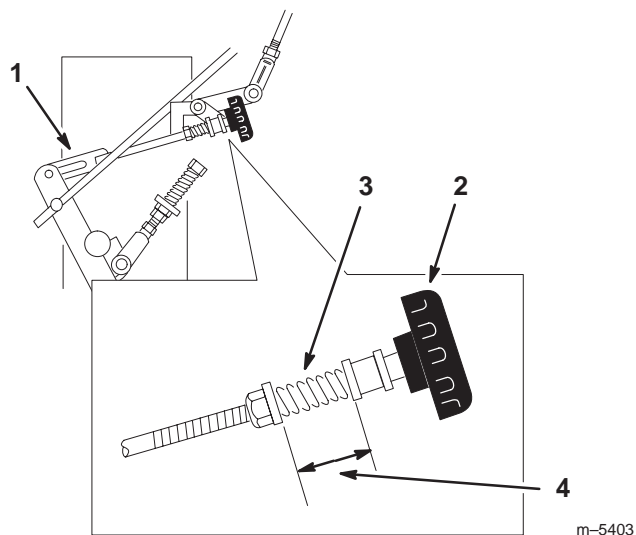

Figure 41
4. Adjust the right side linkage by turning the quick track knob counterclockwise until the tire begins to rotate forward (Fig. 41).
5. Turn the knob clockwise 1/4 of a turn at a time. Then move the speed control forward and back to neutral. Repeat this until right wheel stops rotating forward (Fig. 41).
6. The spring that keeps tension on the knob should normally not need adjustment. However if adjustment is needed, adjust the length of spring to 1 in. (26 mm) between the washers (Fig. 41).
7. Adjust spring length by turning nut at front of spring (Fig. 41).